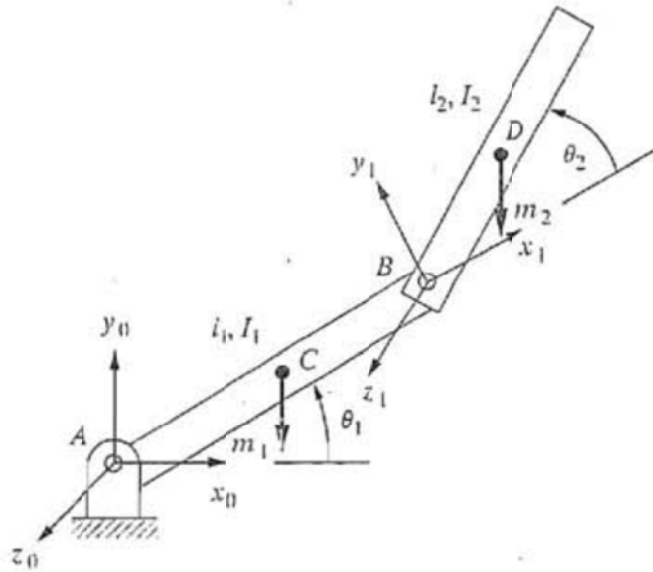

Figure 2: Two-link revolute joint arm.
a.) With respect to figure 2 above, derive the equations of motion for the two-degree-of-freedom robot arm using the Lagrangian method.